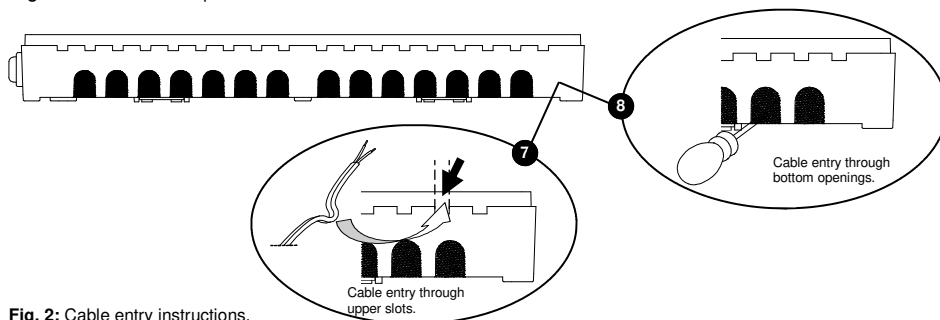

Fig. 2: Cable entry instructions.
Using pliers, carefully remove the plastic 'teeth' shown arrowed ⑦, Fig. 2, then after connecting the cable to the appropriate terminal, bend it as shown in Fig. 2 and clamp using the clamps provided.
Pierce the sponge as shown in item ⑧, Fig. 2, then pass the cable through the sponge into the centre. Make the electrical connections to the appropriate terminals and clamp using the clamps provided.